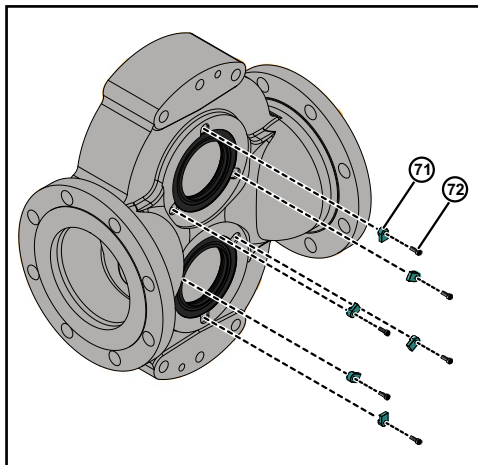

Figure 123 - Install Screws and Retainer-tab
7. Install all the retainer-tab (71) and retainer bolts (72) onto the pump body, as shown in Figure 123. This is *applicable for model 220-320*.